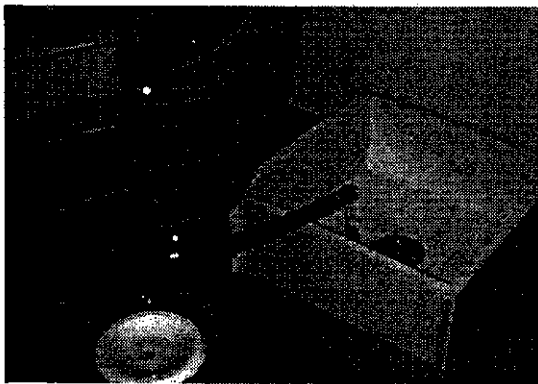

FIG. 10
2. Remove drain hose from holder, position hose over floor drain and twist off knob to drain (Figure 10).